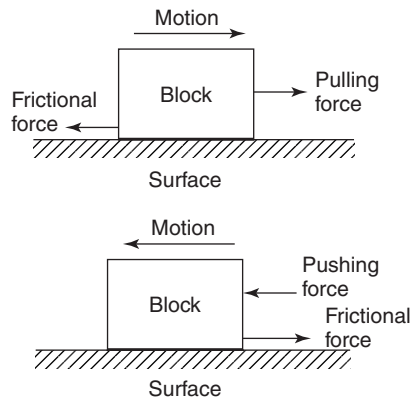

Figure 15.1
- (iii) The direction of the frictional force is always opposite to the direction of motion. Thus the frictional force opposes motion, as shown in Figure 15.1.